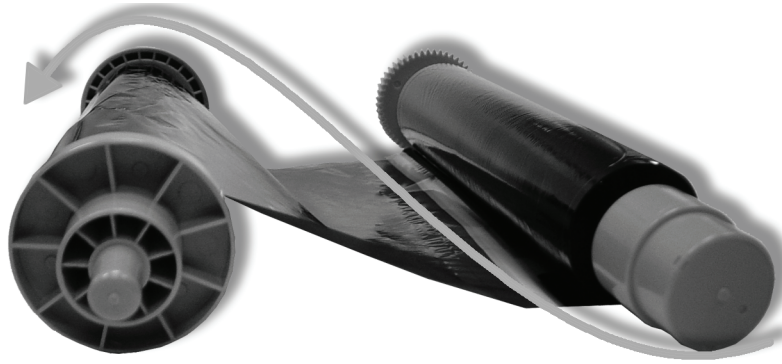

Figure 5. Ribbon Path
The receive ribbon must be wound opposite of the supply ribbon spool creating an S shape in the ribbon (see Figure 5).
4. Wind the receive spool so that the ribbon feeds under the spool (see Figure 5).
5. Wind the supply spool so that the ribbon feeds over the spool and the ribbon is taut (see Figure 5).